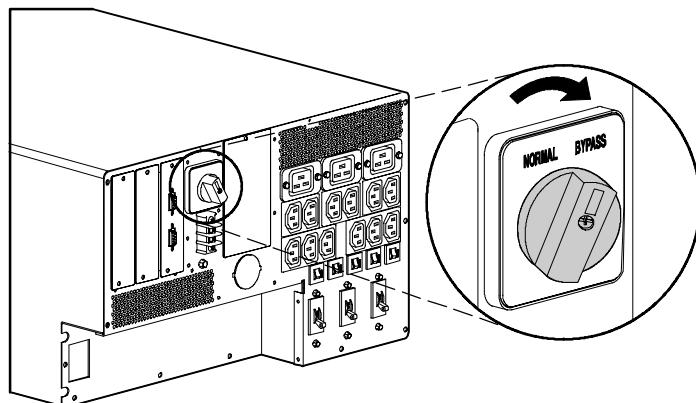

Figure 23. The UPS Bypass Switch
1. Turn the Bypass switch on the UPS rear panel to the BYPASS position (see Figure 23).